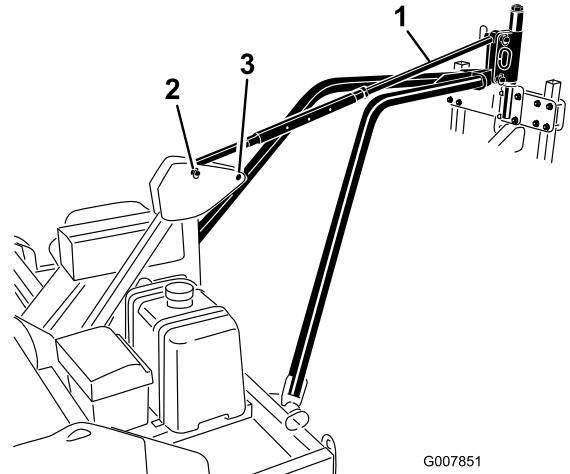

Figure 16
4. Align the hole in the tow arm hitch plate with the lower holes in the aerator hitch pivot (Figure 16).
5. Secure the tow arm hitch plate to the aerator hitch pivot with a hitch pin and lynch pin (Figure 16).
7. Secure the pitch control link to the top holes in the aerator hitch pivot and the frame hitch pivot with hitch pins and lynch pins (Figure 16).